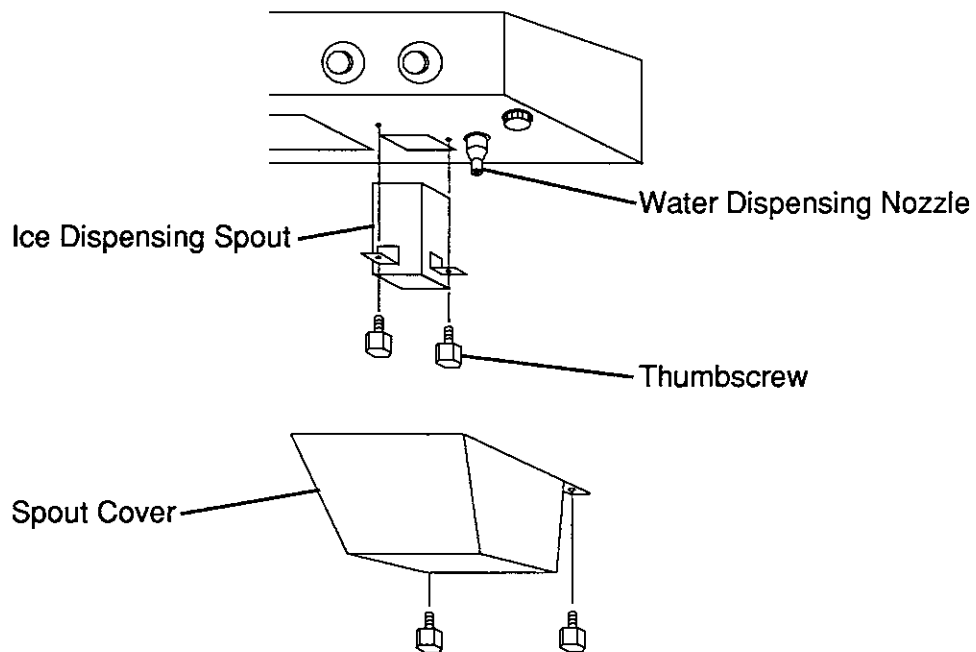

Fig. 21
- 6) Remove the Spout Cover (DCM-450/700BAB, BWB only), the black Ice Dispensing Spout and the Water Dispensing Nozzle. See Fig. 21. Model DCM-700 has an Ice Guide and a Drain Pipe in the Storage Bin. Remove and clean them.